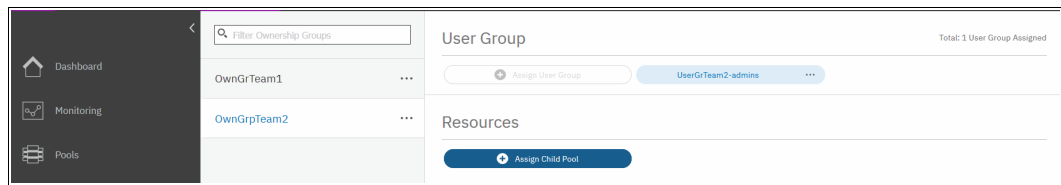

Figure 11-15 Assigning a child pool to an ownership group
- As shown in Figure 11-15, in **Access** → **Ownership Groups**, select the wanted ownership group and click **Assign Child Pool**.